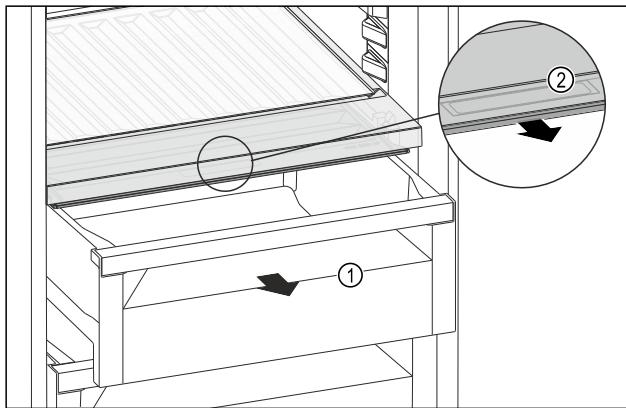

Fig. 121
- Pull out the drawer Fig. 121 (1).
- Grip the handle recess Fig. 121 (2) on the lid while pulling the lid forward at the same time.